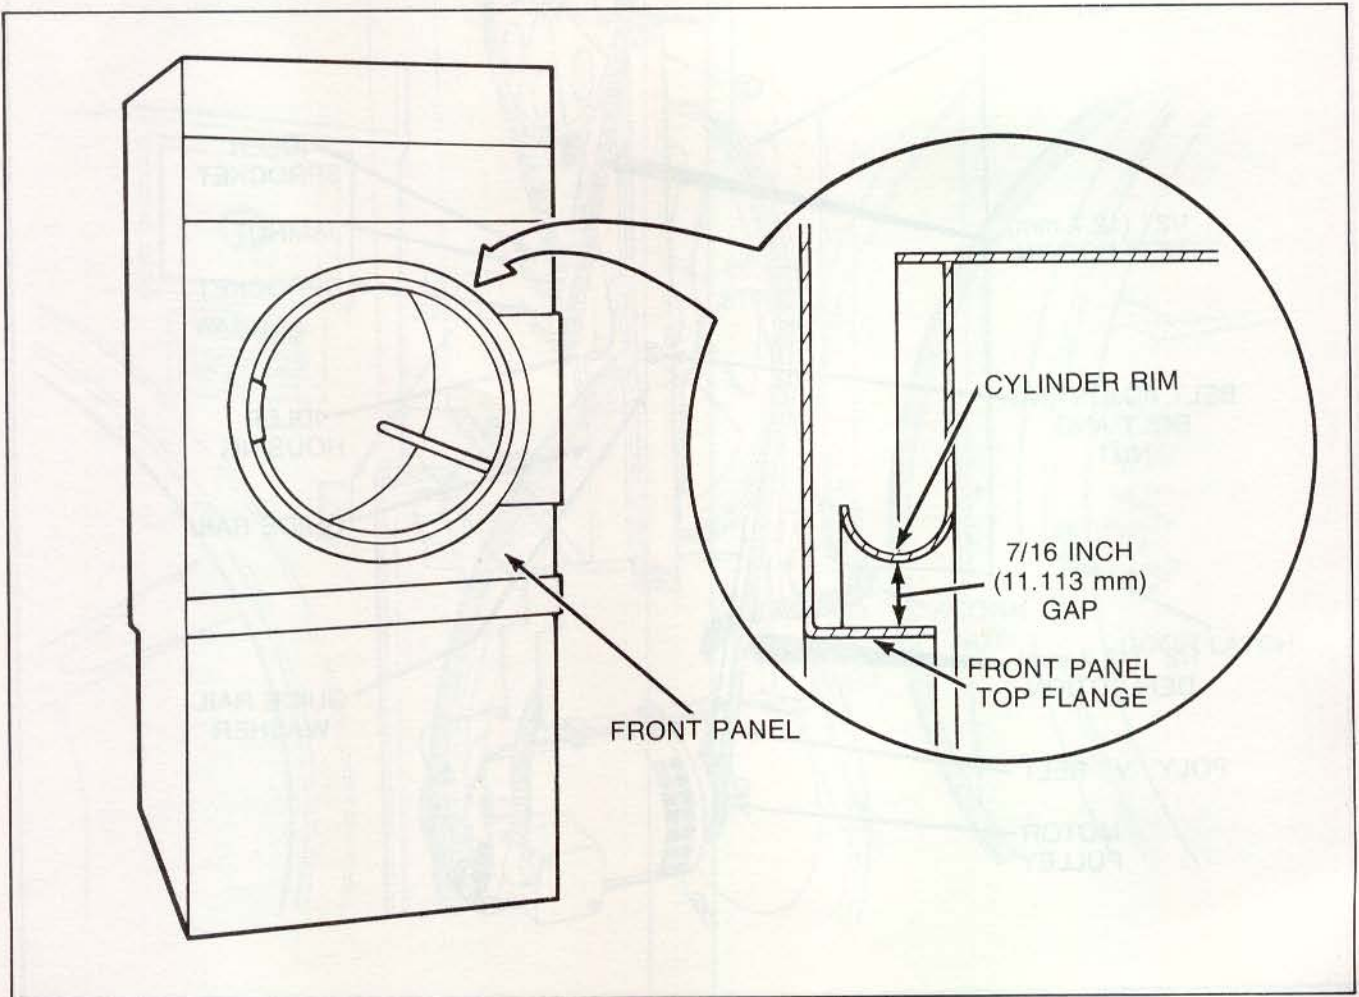

Figure 31
**NOTE:** The gap should be  $7/16$  inch (11.113 mm) *Figure 31.*